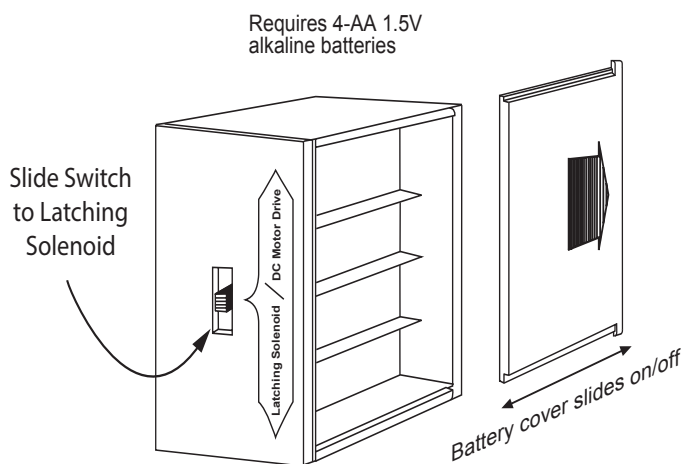
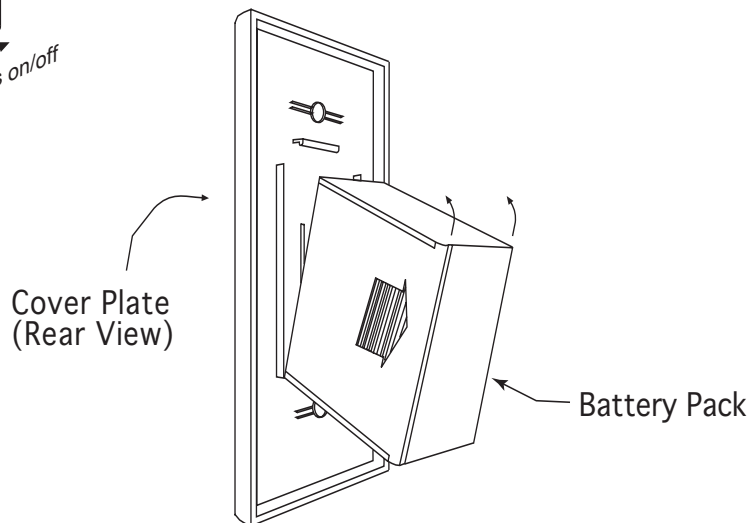

Fig. 21. Slide switch on latching solenoid
Fig. 22 Cover plate installation
1. Install (4) AA batteries in to the battery pack by sliding the cover off as shown in Fig. 21. Double check to ensure the switch on front of the battery pack is in the latching solenoid position. Install the battery pack cover plate by snapping it into place on the back side of the white cover plate as shown in Fig. 22. **Note:** Be sure the batteries are installed positive-to-positive and negative-to-negative. If one battery is installed backwards the system will not operate.